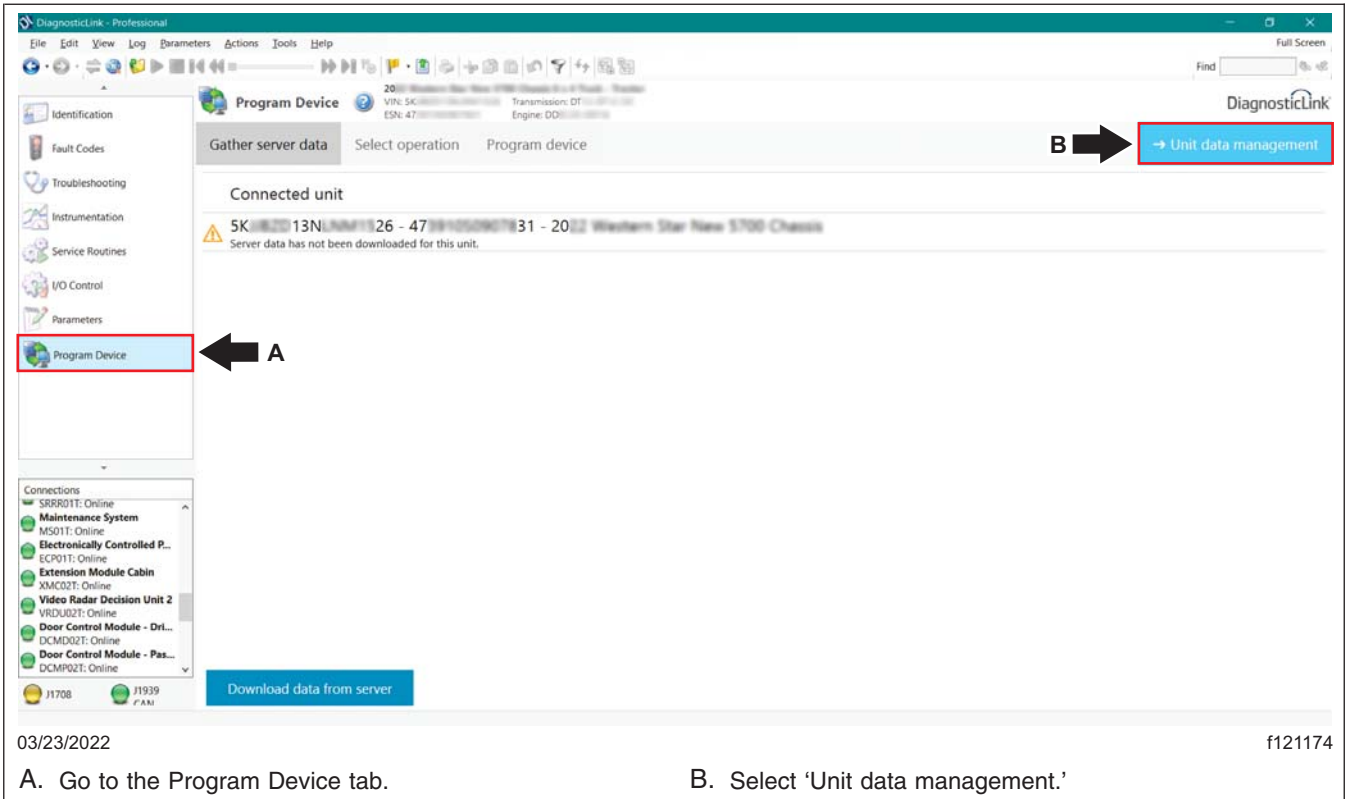

Fig. 5, Selecting Unit Data Management
13. Once the parameter change is complete, go to the 'Program Device' tab. Select 'Unit data management' in the upper-right corner. See Fig. 5.